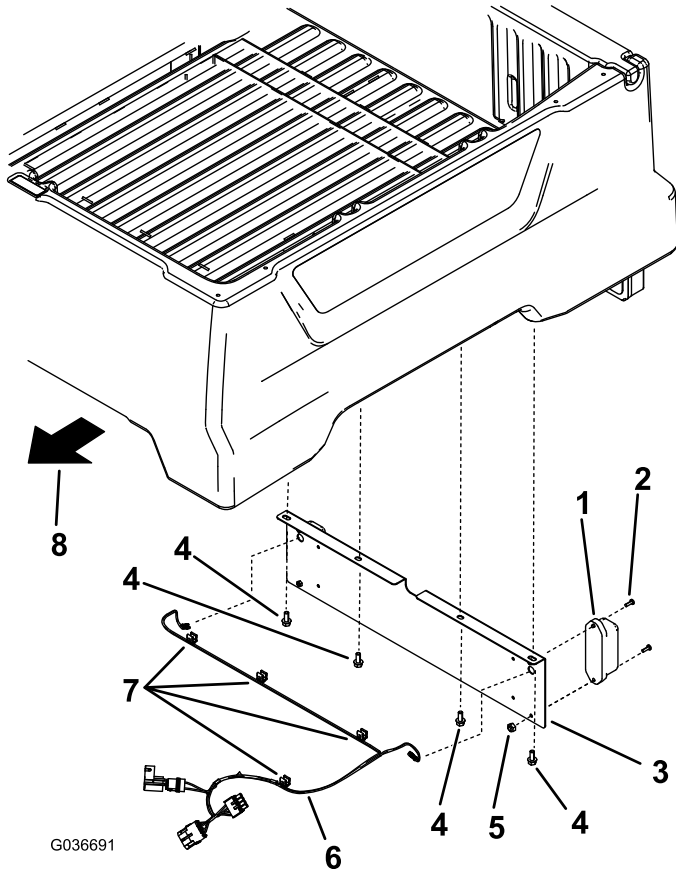

Figure 5
1. Remove the 4 existing flange-head bolts from the underside of the cargo bed and use them to install the plate bracket (Figure 5).
2. Remove the existing edge clips from the wire harness (Figure 5).